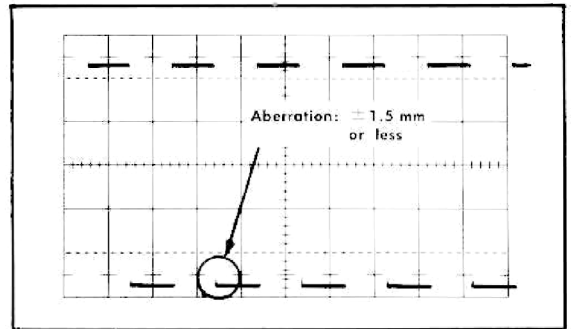

Fig. 5-3. Typical display obtained when checking cross neutralization.
- f. Check—Waveform deviation from that observed in step d, at the upper leading corner of the waveform. Deviation should be no greater than  $\pm 3\%$  ( $\pm 1.5$  mm for a 5 cm waveform). Similar to Fig. 5-3, except that the upper corner is the point at which the check is made.
- h. Check—Deviation of the lower leading corner of the waveform. See Fig. 5-3.